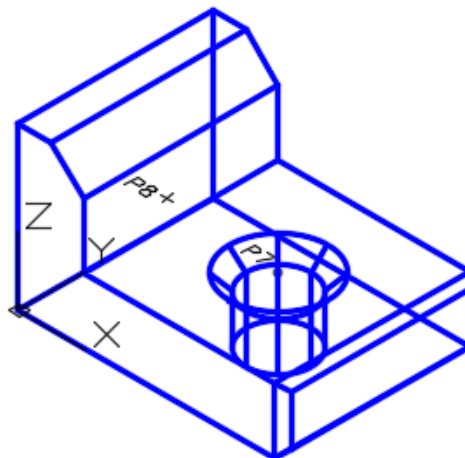

Figure Step 17
Step 17 Enter the SLICE command, as shown below, to cut the solid through the center of the hole on the XY plane. (Figure Step 17)